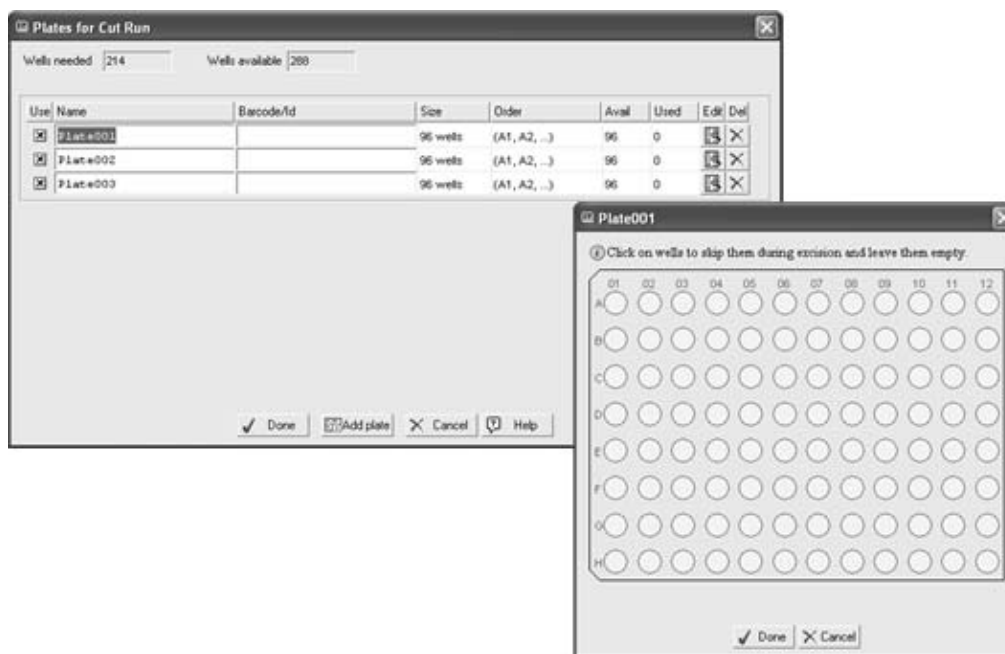

Figure 8-9. "Plates for Cut Run" dialog box
- **Edit:** Click these buttons to show an image of the selected plate (see Figure 8-9). The microplate image displays the status for each well: white, empty well; and red, filled or reserved wells.